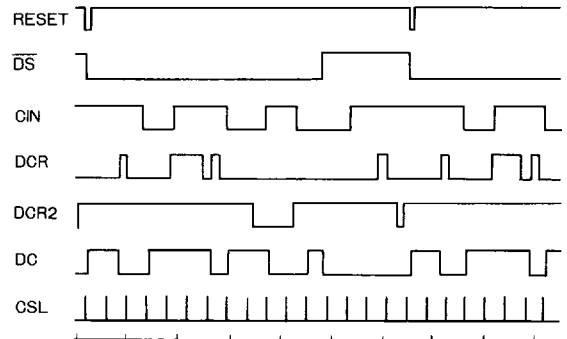

Fig.15
(2) DISK CHANGE/ (INDEX) (Table 2, Fig.15参照)